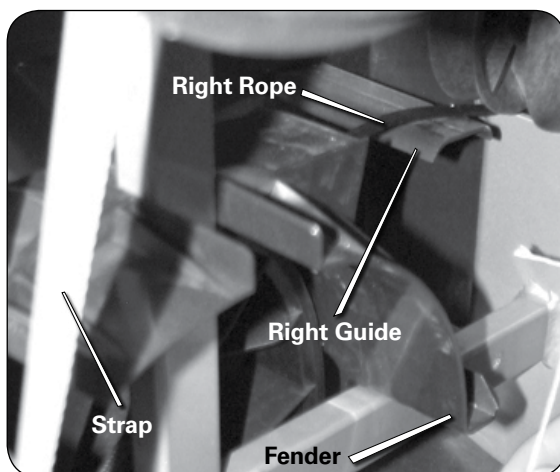
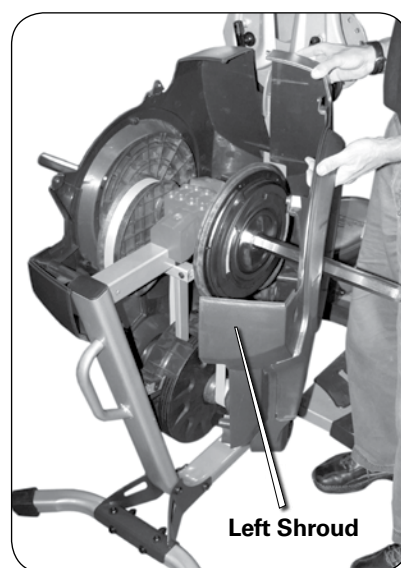
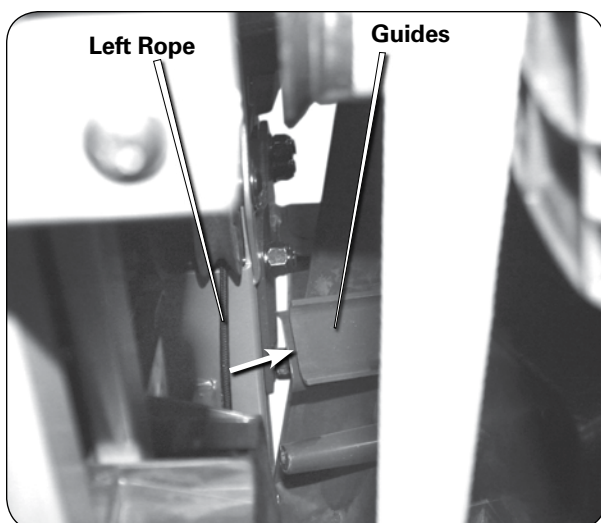

Figure 10a - Right rope and rope guide (pulley not shown)
Figure 10b
Figure 10c - Left rope and rope guides
- 10-1** Make sure that the right Rope (**Figure 10a**) passes above the flat guide to the upper right side of the Pulley.
- 10-2** Replace the Shroud (**Figure 10b**) making sure the left Rope passes between the guides on the inside of the Shroud (**Figure 10c**) and beneath the “fender” on the left side of the Pulley (**see Figure 10a**).